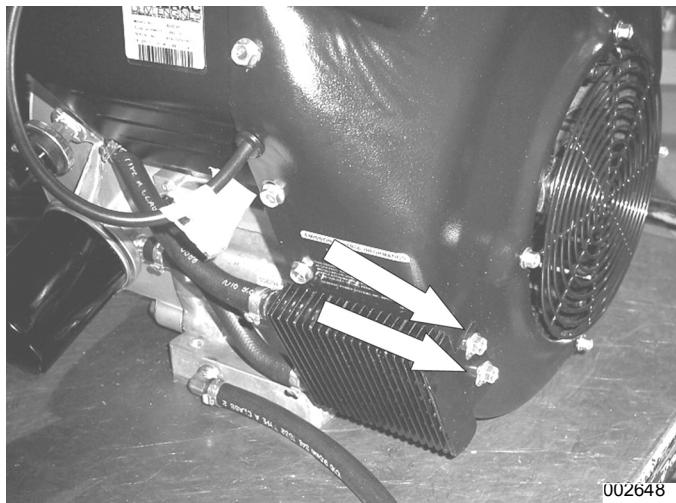

Figure 4-16.
11. **Unbolt Oil Cooler:** See Figure 4-16. Use a 10 mm socket to remove the two 10 mm bolts from the front of the oil cooler. See Figure 4-17. Remove the two 10 mm bolts from the rear of the oil cooler.